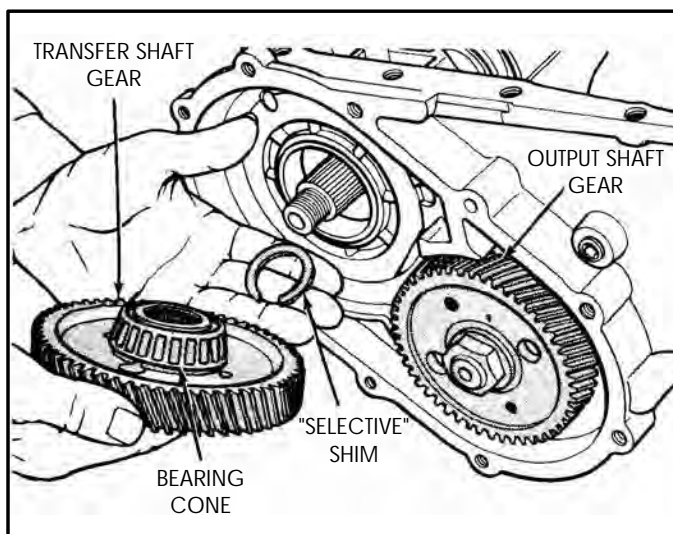

Figure 121
6. Remove transfer shaft gear and the *selective* shim from unit, as shown in Figure 121.